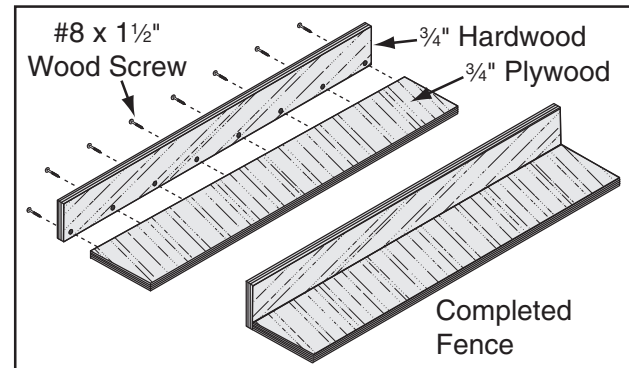

Figure 104. Location of pilot holes.
2. Pre-drill and countersink eight pilot holes $\frac{3}{8}$ " from the bottom of the 3" wide board, then secure the boards together with eight #8 x $1\frac{1}{4}$ " wood screws, as shown in **Figure 104**.